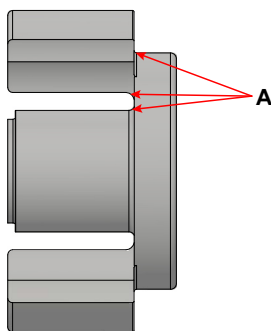

Figure 32 - Rotor Stress Points
- Thoroughly inspect the rotors for worn keyways, hub wear and stress cracks. Use the dye check method to detect any fatigue-type cracks at rotor stress points (Figure 32, item A).